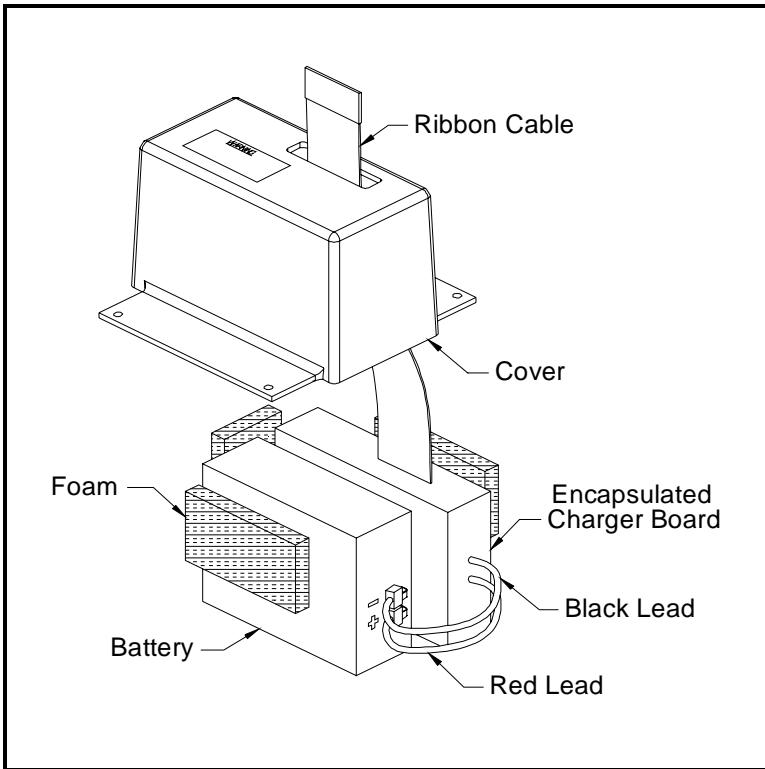

Figure 4-1: Battery Pack with Charger Board
Refer to Figure 4-1 on page 4-11 and complete the following steps to remove the old battery:
2. Disconnect the ribbon cable that connects the encapsulated charger board to connector J3 on the back of the main printed circuit board, which is mounted in the cover of the Series 35 IS. Refer to Figure 4-1 on page 4-11 and Figure 4-2 on page 4-15.
Refer to Figure 4-1 on page 4-11 and Figure 4-2 on page 4-15 and use the following steps to install the new battery: